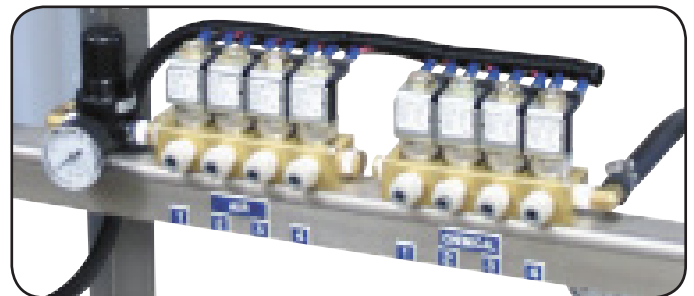

figure 3
3. Run 1/4" tubing provided from air and chemical solenoids for each bay to manifolds. (Fig. 3)